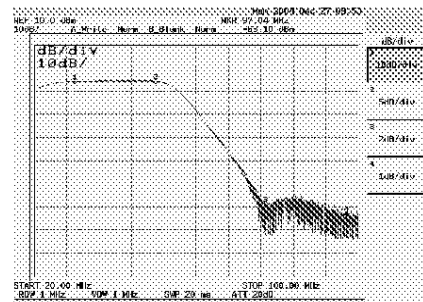

Fig. 6
- ☐ Check that the passing band of the section is similar as the one in Fig.6 and able to cover the whole IF band from **30MHz** to **50MHz**.